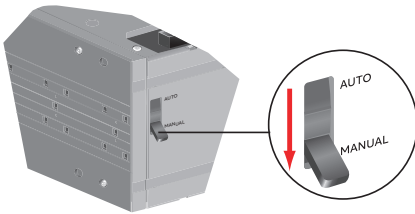

Figure 3.1 Toggle to manual (MANUAL) position
1. Toggle the selector switch to the manual (MANUAL) position to enter manual operation mode, as shown in Figure 3.1.